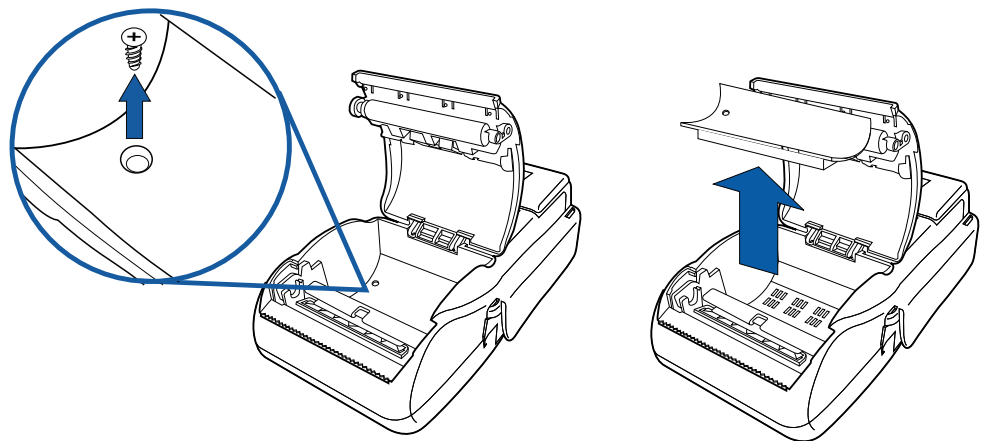

Figure 17 Exposing the MSAM Compartment
- 4 Unscrew the latch to expose the MSAM compartment. (see Figure 17)